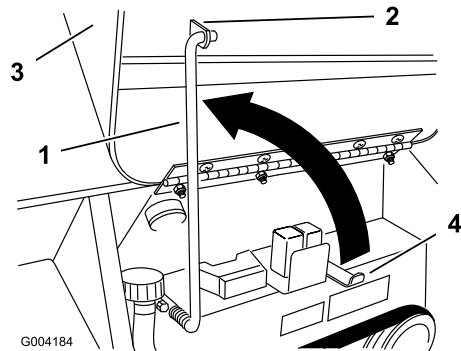

Figure 23
3. Swing the prop rod up and secure it in the bracket on the hood (Figure 23).